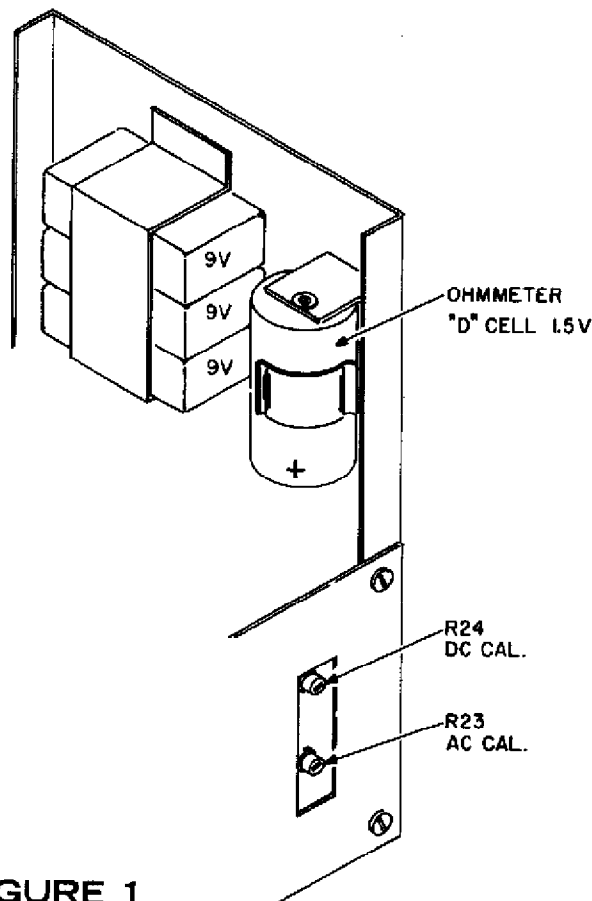

FIGURE 1
5. With the a. c. source operational, check that the Model 240 indicates the correct voltage. If not, adjust R23 (the lower of the two potentiometers accessible through removable hole plugs on the right-hand side of the instrument), until the meter indicates the correct value. See Fig. 1.
2. The 1-1/2 volt ohmmeter battery is mounted at the right side of the rear subchassis in its own holder. The battery should be replaced with a comparable cell, observing the polarity (positive side down). See Fig. 1.
4. A switch on the rear panel determines whether the Model 240 is operated on the power line or on the internal batteries. Place this switch in the appropriate position. (See Fig. 1)